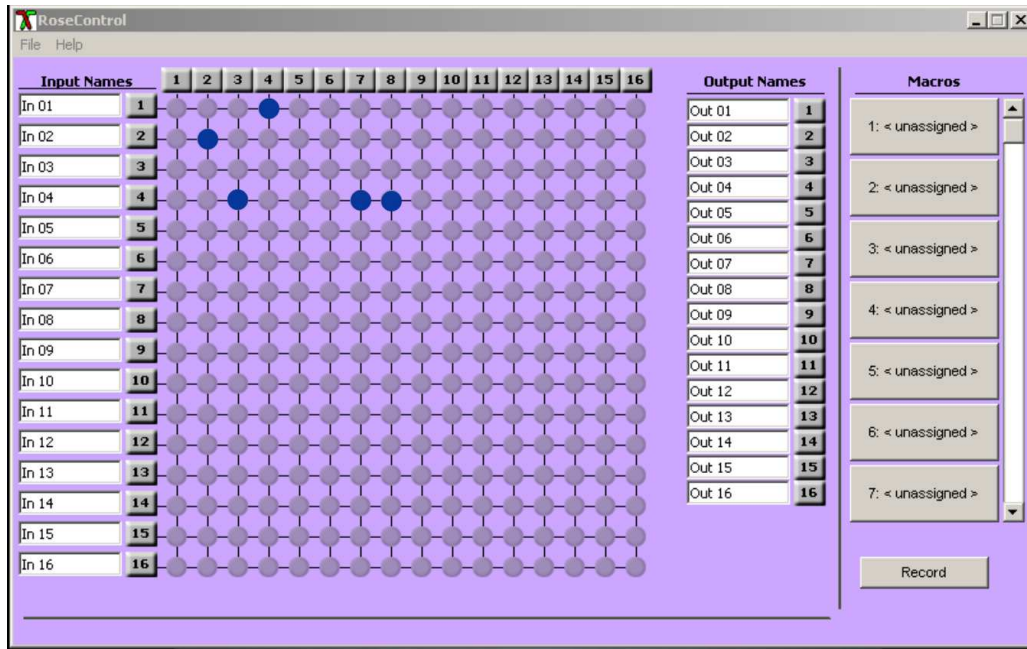

Figure 3. Rose Control Switching Matrix
5. When all fields are set to the correct values, click on the “OK” tab. The matrix OSD will display as shown in Figure 3.
In the example shown in Figure 3, Input 04 is connected to output 03, 07, and 08.